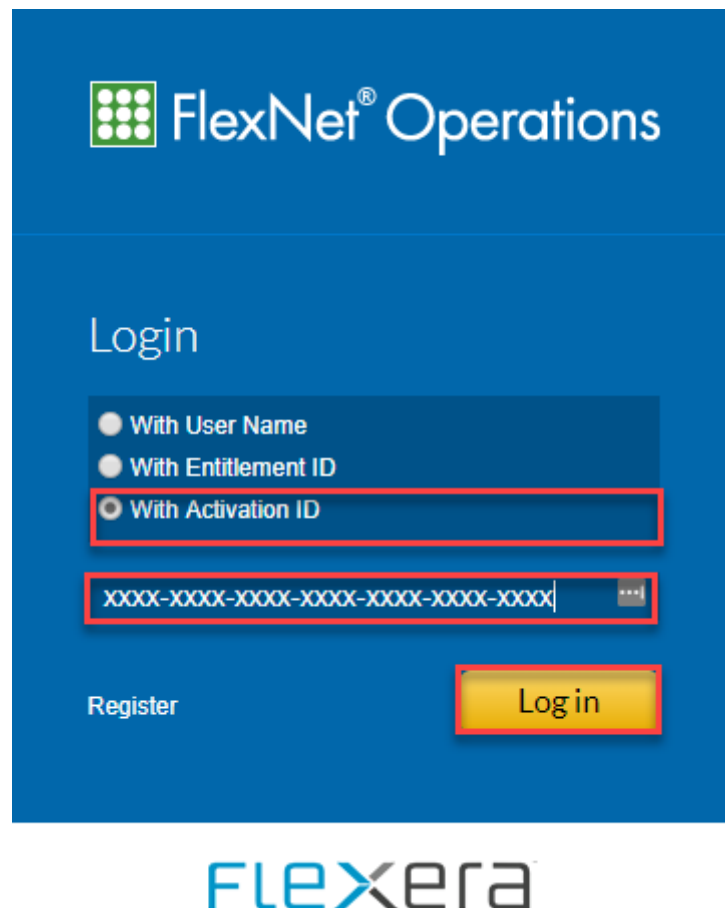

Figure 6 - FlexNet Operations screen, select login with Activation ID, and enter your 32 character licence as shown
10. Copy and paste the *FNO* login screen address from the text file to display the log in dialog (Figure 6).